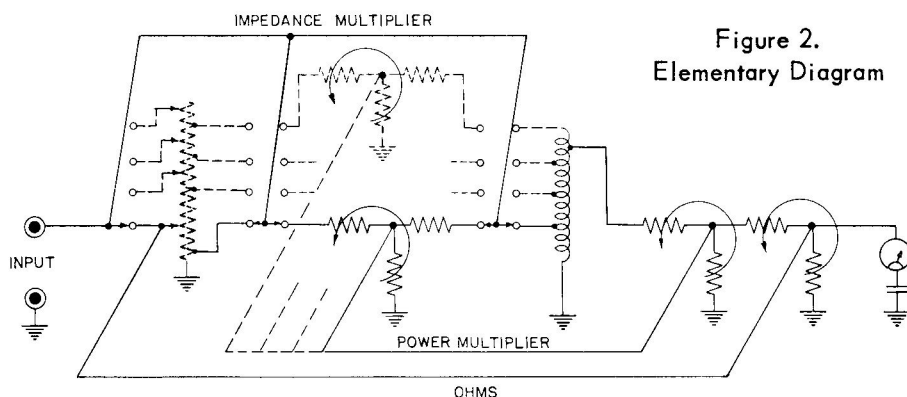

Figure 2.
1.2.1 GENERAL. (See Figure 2.) The Output-Power Meter is functionally an adjustable load impedance, with a voltmeter calibrated directly in watts dissipated in the load.